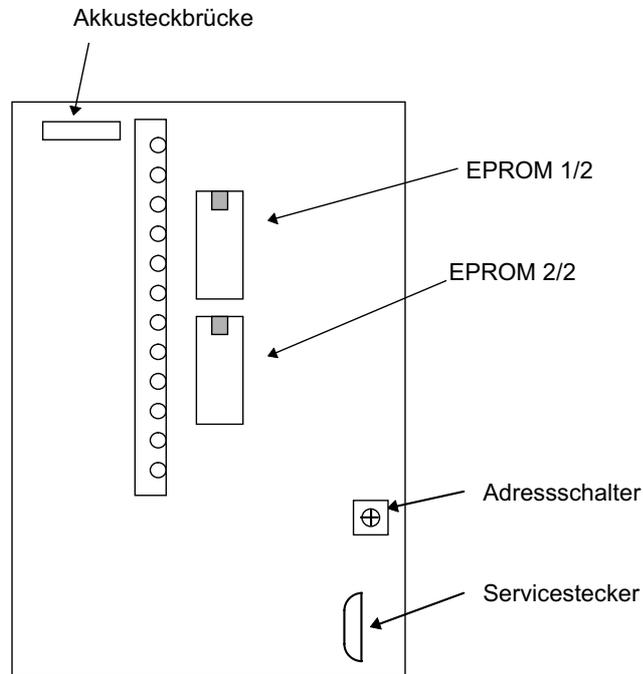

Figure 1
- When fitting the new EPROMs, make certain that their order and orientation are correct (refer to Figure 1). Ensure that the connections are correctly made.